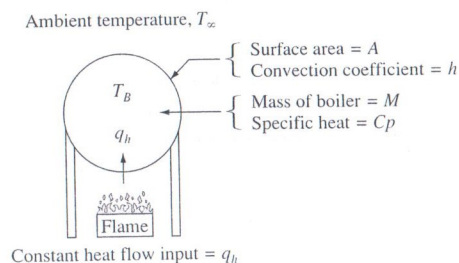

Figure P6.15 Thermal plant boiler.
- 6.15 Shown in Figure P6.15 is a boiler used in a thermal energy plant. Write the modeling equations for the system, and derive a differential equation for the temperature inside the boiler as a function of the ambient temperature and the heat input. State the expressions for the time constant and the steady-state temperature.